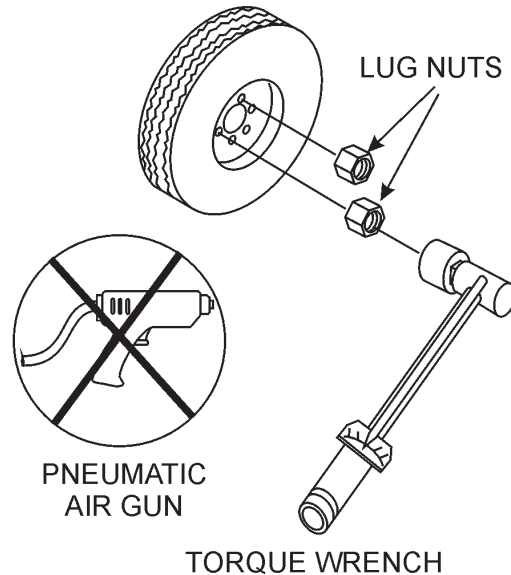

Figure 45. Wheel Lug Nuts Tightening Sequence
2. Torque all lug nuts in sequence. See Figure 45. **DO NOT** torque the wheel lug nuts all the way down. Tighten each lug nut in 3 separate passes as defined by Table 7.